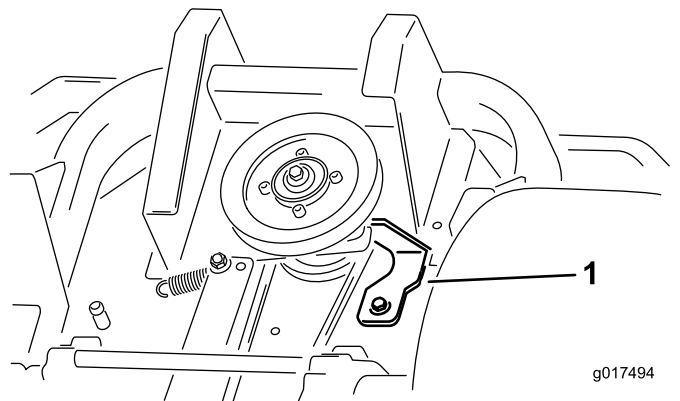

Figure 63
5. Remove the clutch stop shown in Figure 63.
9. Install the clutch stop shown in Figure 63.